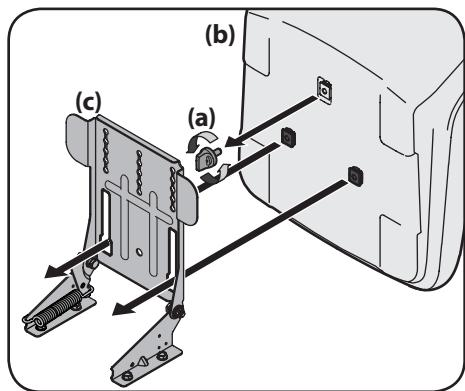

Figure 2-5
- Remove the seat adjustment knob (a) from the bottom of the seat (b). See Figure 2-5.
- Align the seat (b) over the seat pivot bracket (c) as shown in Figure 2-5 and fit the seat (b) onto the seat pivot bracket (c) inserting the two tabs on the seat (b) bottom into the slots on the seat pivot bracket (c).